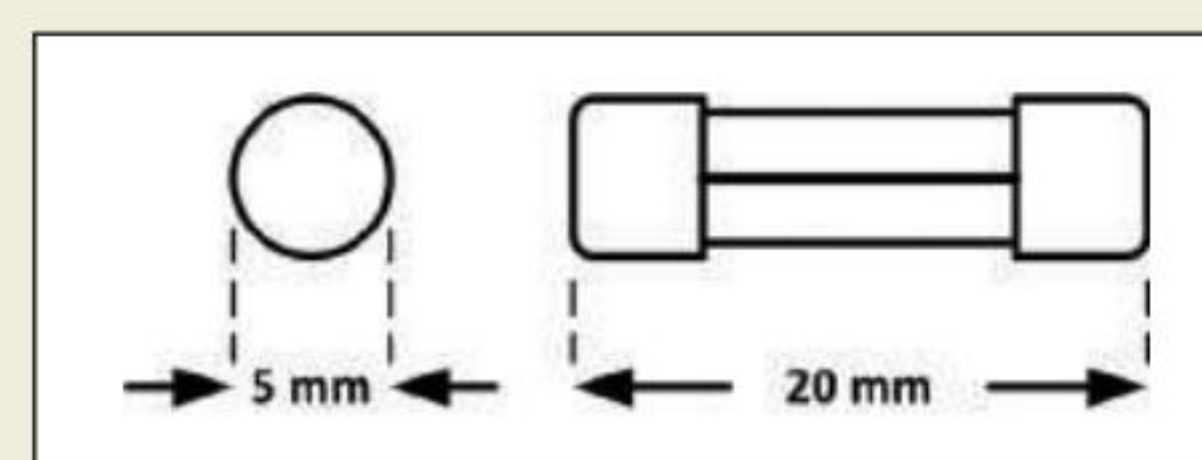

Fig.4.16. A standard fast-acting 20mm fuse (the fuse rating is usually marked on the end cap)
1. Use only standard 20mm glass encapsulated fuses (see Fig.4.16). They should be fitted in an insulated fuse holder, ideally panel mounted in order to permit easy fitting and replacement. The fuse holder should be clearly marked with the required fuse rating.